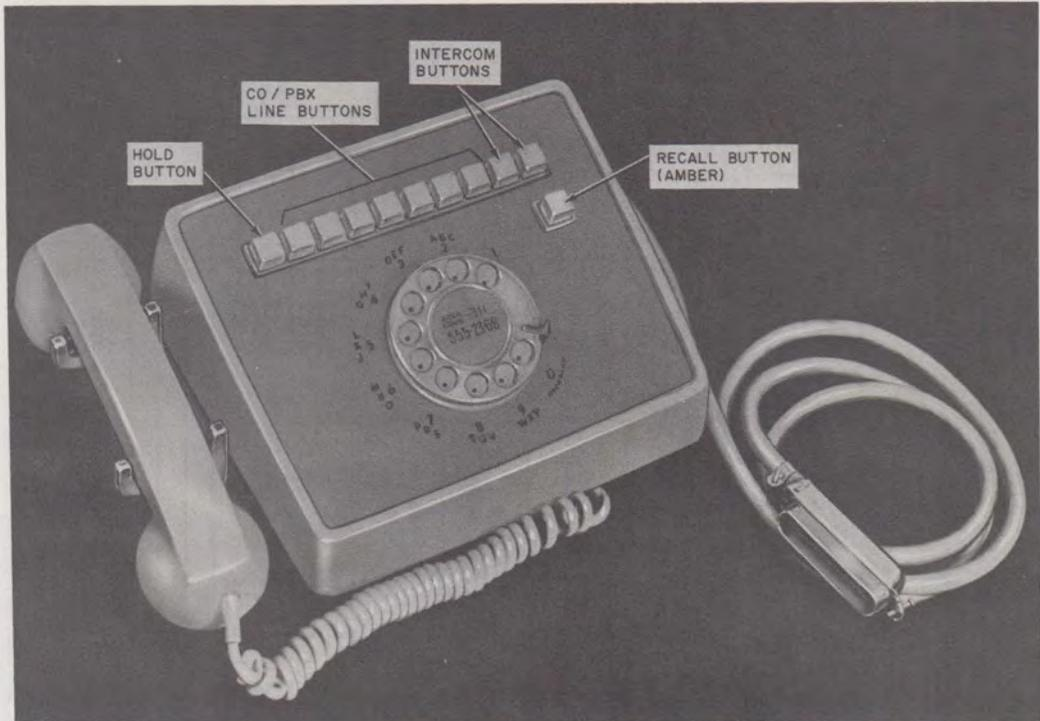

Fig. 22—832B-50 Telephone Set
- 2.33 The 832B-50 telephone set (Fig. 22) is a rotary dial 11-button key set. The set has